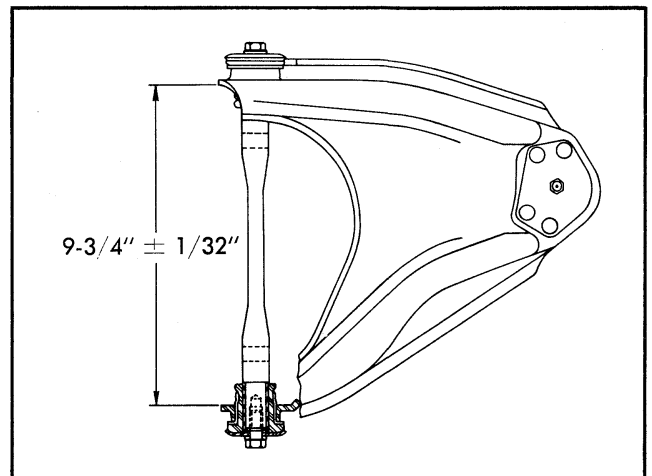
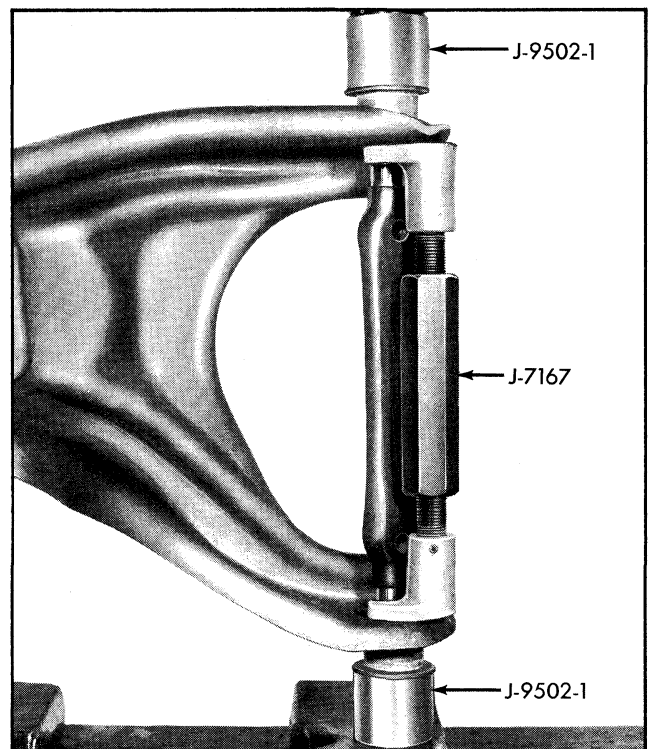

Fig. 3-16 Correct Installation of Upper Control Arm Shaft
Fig. 3-17 Install Front Upper Control Arm Bushings
a. Place tool J-7167 in position (Fig. 3-17) and expand until distance between outer faces of arm is 9-3/4" (Fig. 3-16).
- d. Press bushings in control arm with arbor using two J-9502-1 Installers as shown in Fig. 3-17.
- f. Line up pivot shaft by rotating shaft in bushing so that frame mounting holes in shaft line up as shown in Fig. 3-16.